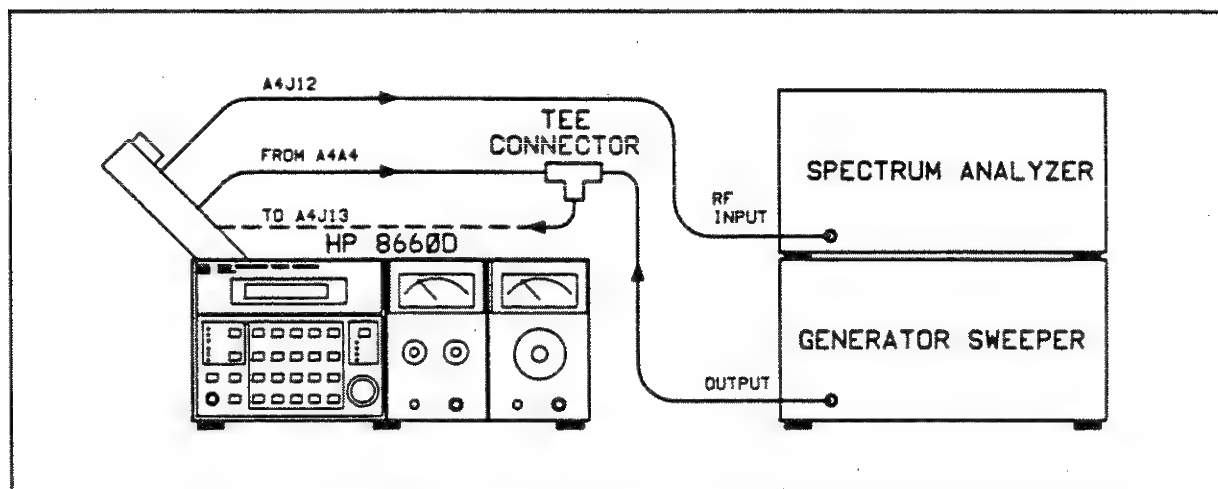

Figure 5-14. Loop Gain Adjustment Test Setup
5. Loop Gain Adjustment (see Figure 5-14).